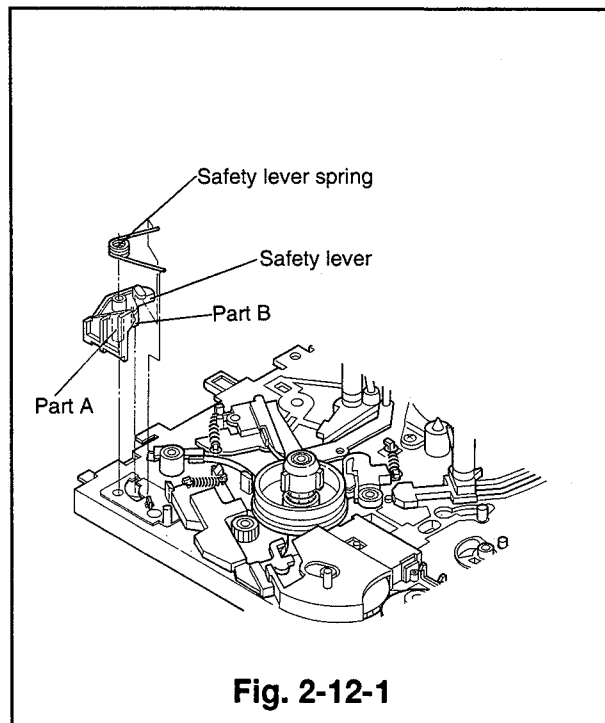

Fig. 2-12-1
- ① Install the safety lever so that part A aligns with the hole on the main plate, shown in Fig. 2-12-1, and part B with the hole of the safety arm on the reverse side of the deck.